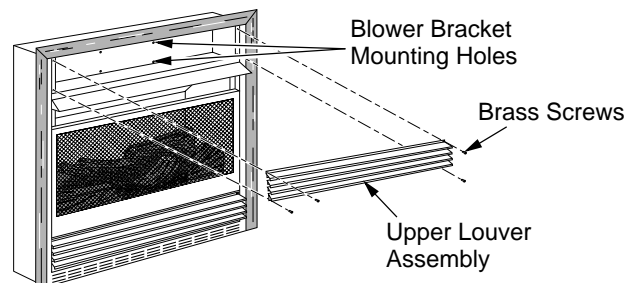
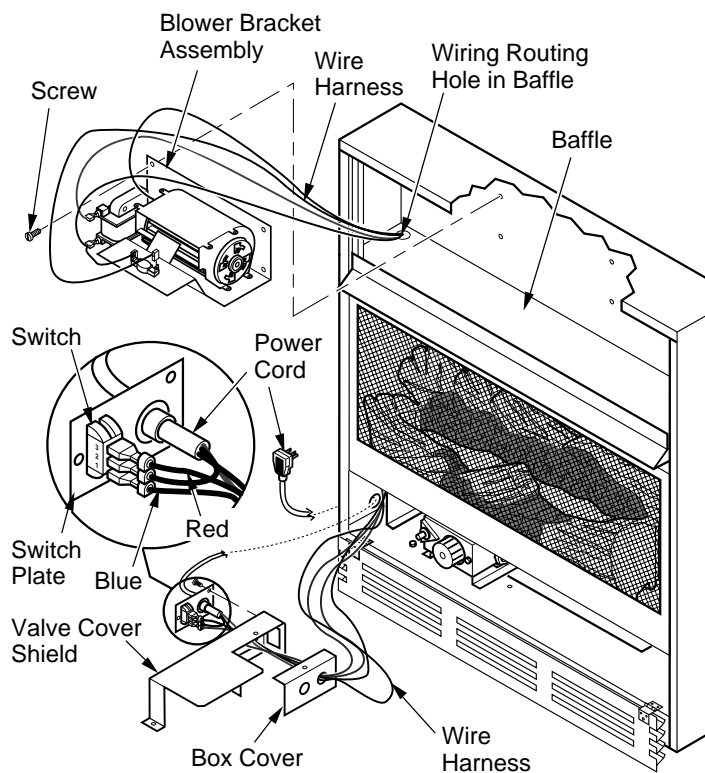

Figure 16 - Removing Upper Louver Assembly
Figure 18 - Installing Blower Bracket Assembly
2. Remove 4 screws from louver assembly (see Figure 16). Save these screws.
3. Note the wire locations on back of AUTO/OFF/ON switch. The terminals on back of switch are numbered 1, 2, and 3. Carefully remove red wire from terminal 1 and blue wire from terminal 3. Black wire can remain on middle terminal 2 (see Figure 18).
5. In top of the heater cabinet, locate the four mounting holes on the outer casing. Align these four holes with those on the blower bracket assembly. Attach blower bracket assembly to the outer casing with 4 #10 screws provided (see Figure 18).
6. Route the wire harness through the hole in left side of baffle. Pull wire harness through lower opening above where the valve shield was removed. (see Figure 18).
7. Insert the 4 wire harness into one of the round holes in the rear of the valve cover shield and through the rectangular hole in the front of shield (see Figure 18).
- Install the switch plate on the valve cover shield with 2 #10 screws provided (see Figure 18, page 12). Reinstall the valve cover shield. Route power cord out of the cabinet by inserting it through the bushing on the outer casing (see Figure 18, page 12). Plug fan kit into 120-Volt grounded power supply and test operation. **Note:** When switch is in the AUTO position, the fan will start after the heater has run for a few moments. The fan will continue to run for several moments after the heater has been turned off. When switch is in the ON position, the fan will run until turned to OFF. Reinstall upper louver assembly and hood if previously removed, (see Figure 16, page 11). Close lower louver door.
- Reinstall upper louver assembly and hood if previously removed, (see Figure 16, page 11). Close lower louver door.